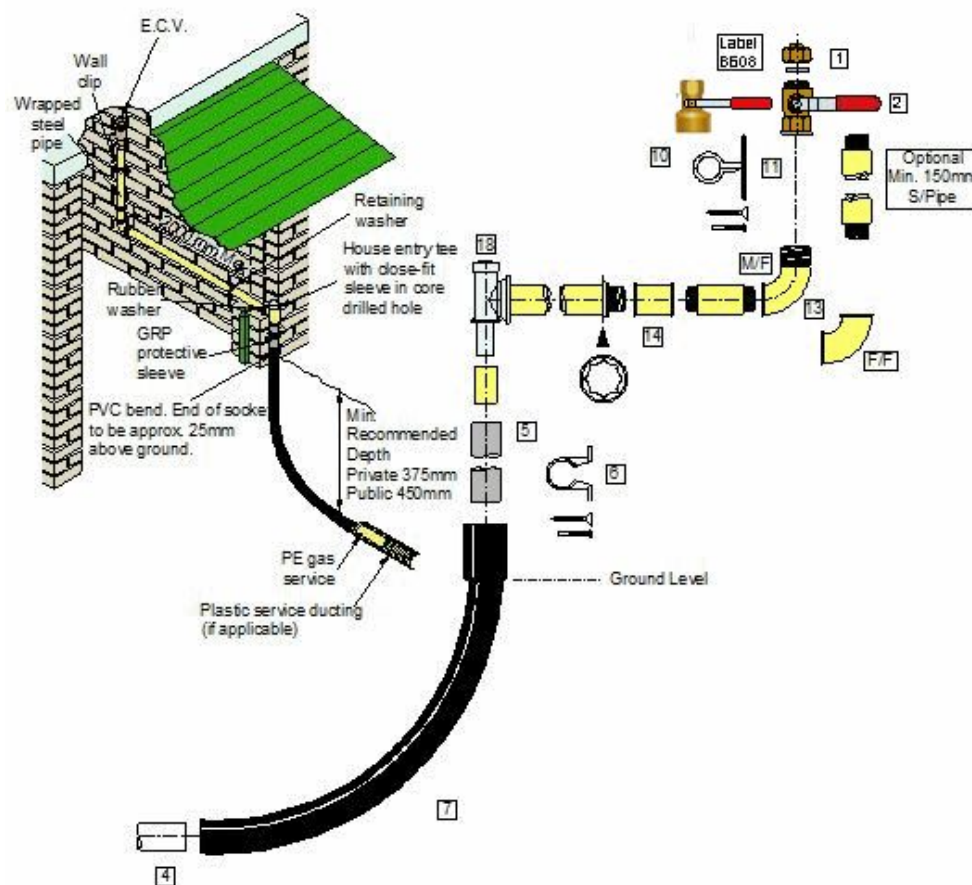
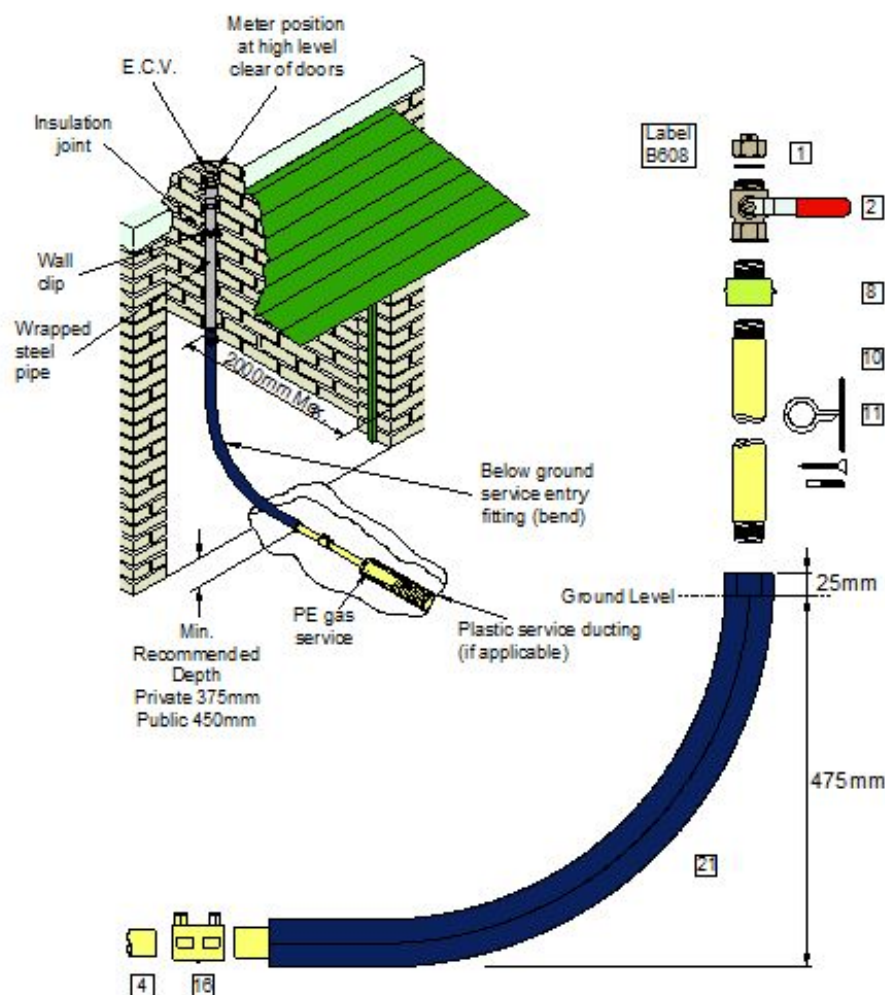

Figure 82 - LP service to garage (existing building)
Figure 83 - LP service garage (New build)
*Note: Typical layouts are shown in Figure 82 and Figure 83. Figure 82 illustrates a service entry at low level, but a high-level service entry is the preferred option, due to less risk of interference damage. Figure 83 illustrates a service entry below ground. The below ground entry fitting (bend) should be installed at the construction stage of the building prepared by the developer (this is usually undertaken at the planning stage by prior agreement with the developer.)*